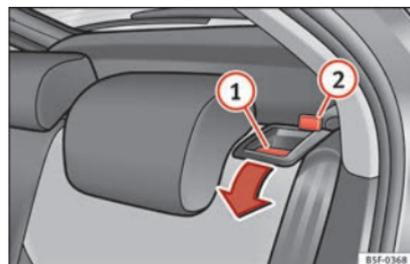

Fig. 151 Backrest release lever.
- Press the release lever »» Fig. 151 ① in the direction of the arrow.
- Raise the backrest until it engages in its upright position »» ⚠. The red marking on the tab »» Fig. 151 ② should no longer be visible when the backrest is properly secured.